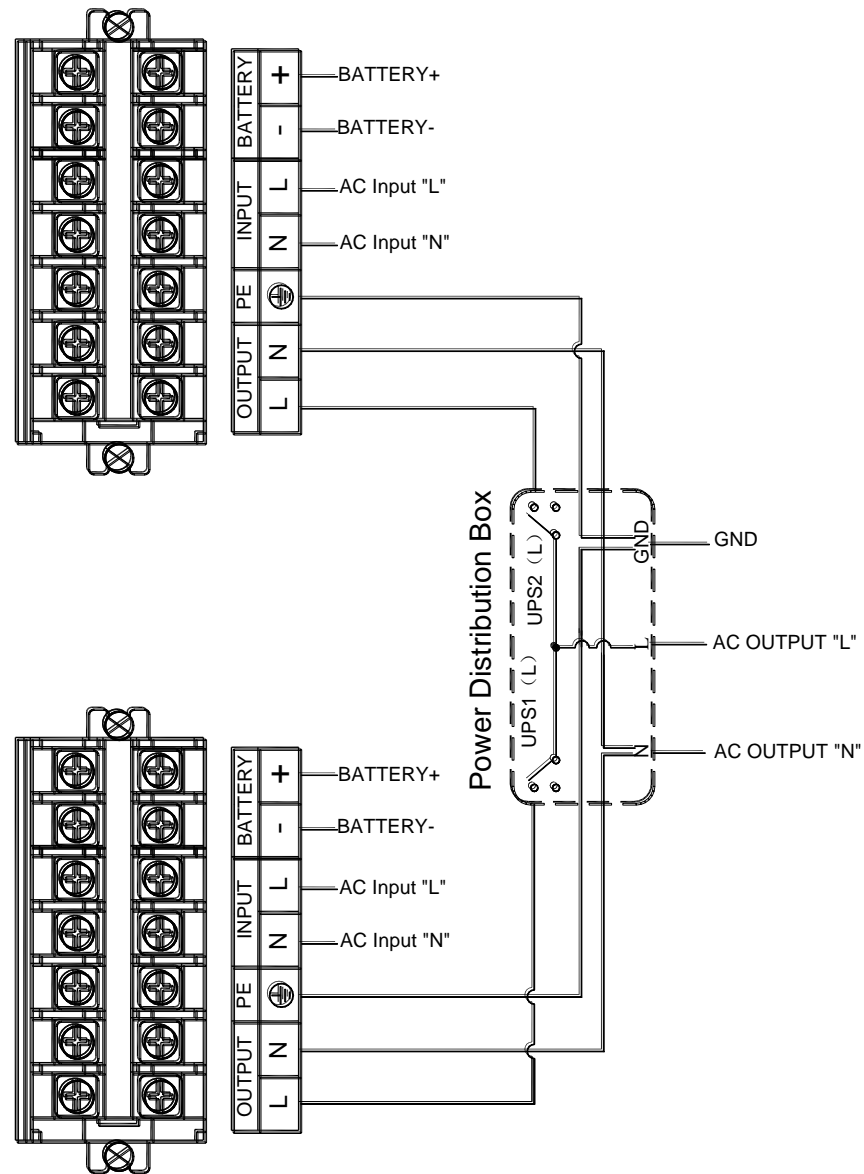

Fig. 4.9-3 Parallel connection procedures for KR/B1110 (S)
3. Parallel Connection for KR/B 1110(S) is demonstrated as in below Fig.4.9-3.